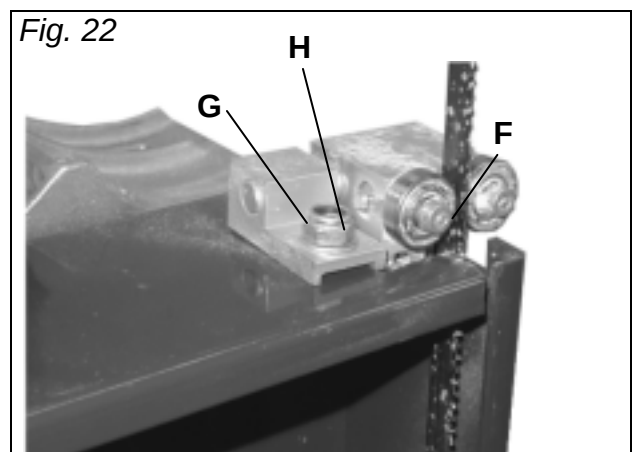

Fig. 22
To adjust the lower blade guides (F) *Fig. 22* first position the guides so that they are approx. 2mm behind the gullets of the bandsaw blade by slackening off the nut (G) *Fig.22* then moving the guide carrier casting to the desired position. Re-tighten the nut (G) to lock in position.